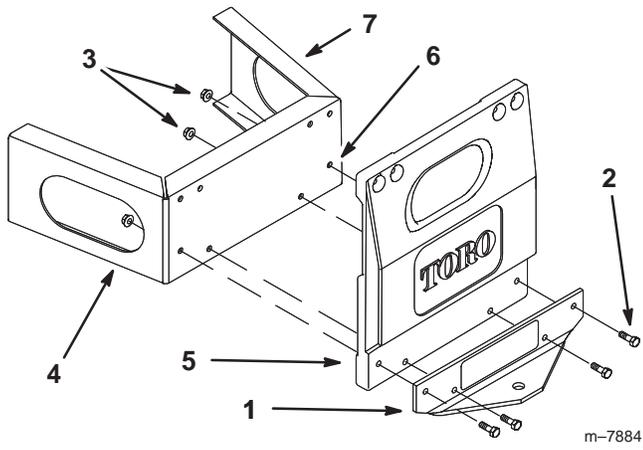
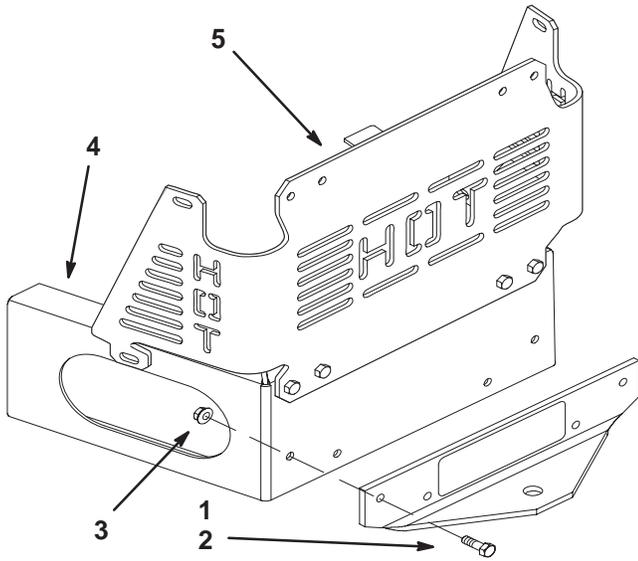

Figure 1
Figure 2
3. Remove any existing hardware in the bottom four holes in the rear bumper (Fig. 1 and Fig. 2).
4. To install the hitch on a tractor with a rear counterweight, align the holes and tighten the locknuts and bolts (5/16 x 2 inch) (Fig. 1).
5. To install the hitch on a tractor with a heat shield, align the holes and tighten the locknuts and bolts (5/16 x 1 inch) (Fig. 2).